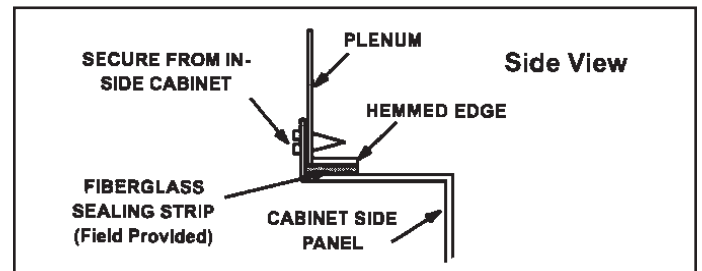

Figure 11.
- In closet installations, it may be impossible to install sheet metal screws from the outside. In this case, make plenum with a removable front and install screws from the inside. See Figure 11.